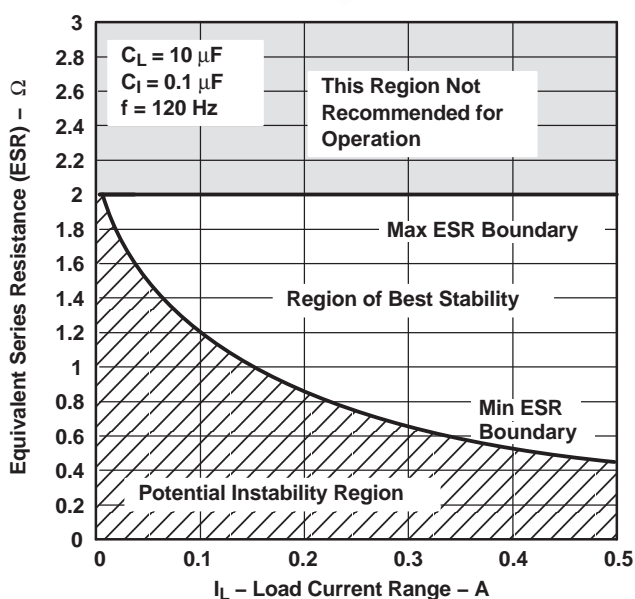

Figure 1.
(1) Pulse-testing techniques maintain the junction temperature as close to the ambient temperature as possible. Thermal effects must be taken into account separately. All characteristics are measured with a  $0.1\text{-}\mu\text{F}$  capacitor across the input and a  $10\text{-}\mu\text{F}$  tantalum capacitor on the output, with equivalent series resistance within the guidelines shown in Figure 1.
The TL750Mxx is a low-dropout regulator. This means that the capacitance loading is important to the performance of the regulator because it is a vital part of the control loop. The capacitor value and the equivalent series resistance (ESR) both affect the control loop and must be defined for the load range and the temperature range. Figure 1 and Figure 2 can establish the capacitance value and ESR range for the best regulator performance.
Figure 1 shows the recommended range of ESR for a given load with a 10-μF capacitor on the output. This figure also shows a maximum ESR limit of 2 Ω and a load-dependent minimum ESR limit.
For applications with varying loads, the lightest load condition should be chosen because it is the worst case. Figure 2 shows the relationship of the reciprocal of ESR to the square root of the capacitance with a minimum capacitance limit of 10 μF and a maximum ESR limit of 2 Ω. This figure establishes the amount that the minimum ESR limit shown in Figure 1 can be adjusted for different capacitor values.
For example, where the minimum load needed is 200 mA, Figure 1 suggests an ESR range of 0.8 Ω to 2 Ω for 10 μF. Figure 2 shows that changing the capacitor from 10 μF to 400 μF can change the ESR minimum by greater than 3/0.5 (or 6). Therefore, the new minimum ESR value is 0.8/6 (or 0.13 Ω). This allows an ESR range of 0.13 Ω to 2 Ω, achieving an expanded ESR range by using a larger capacitor at the output. For better stability in low-current applications, a small resistance placed in series with the capacitor (see Table 1) is recommended, so that ESRs better approximate those shown in Figure 1 and Figure 2.